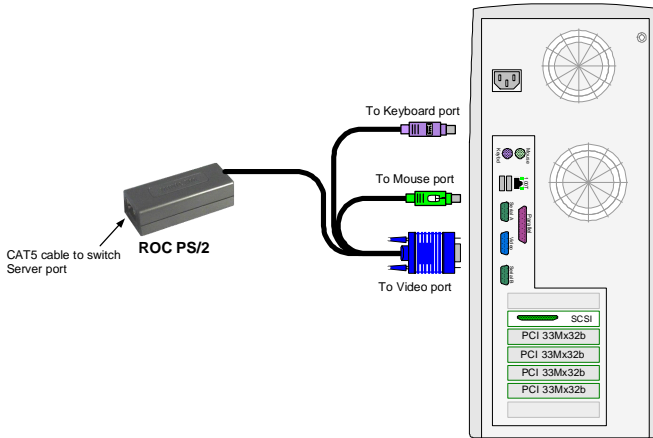

Figure 8 ROC PS/2 connections
2. Connect the ROC PS/2. Figure 8 illustrates the ROC PS/2 connections.